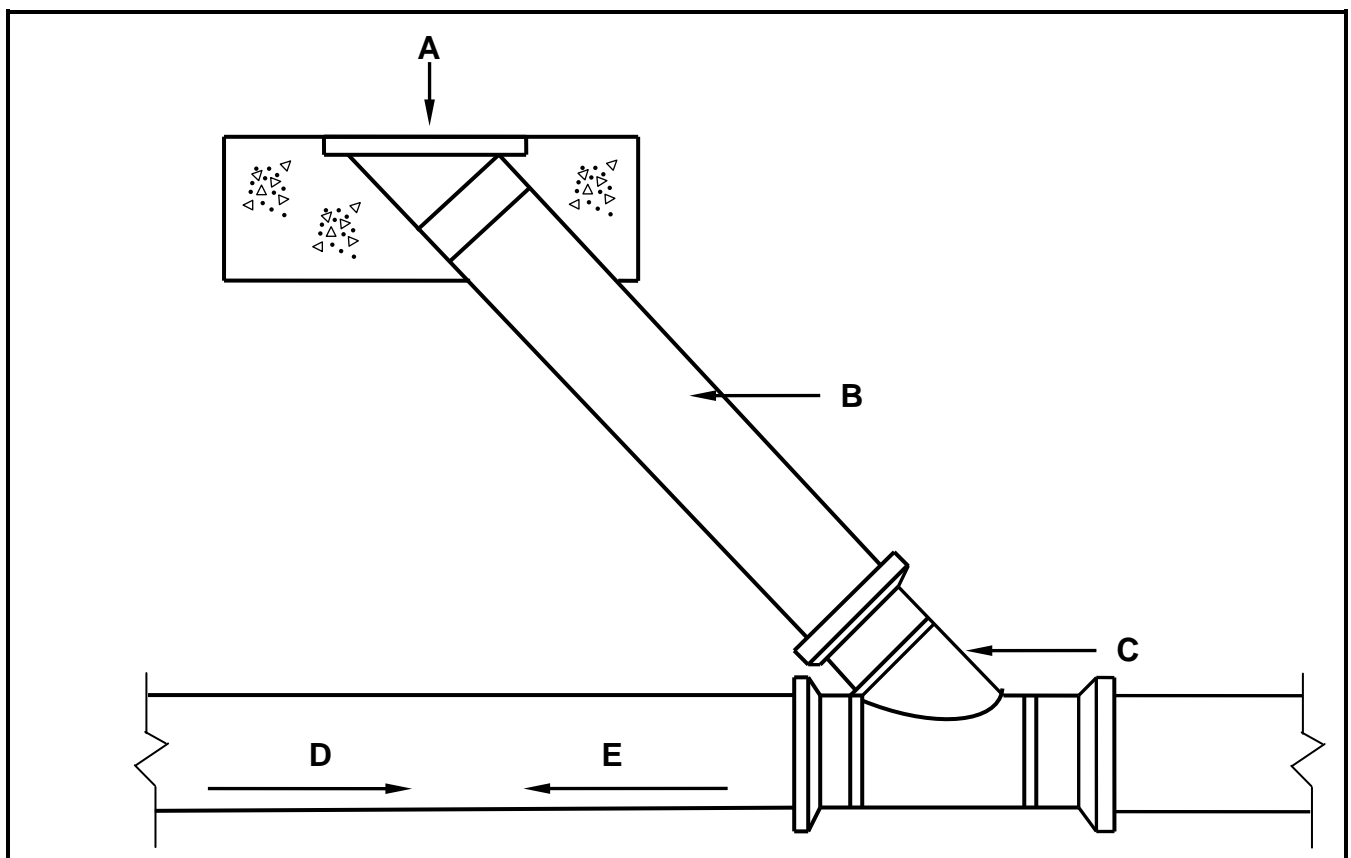

FIGURE 3.3
3.3 FIGURE 3.3 below shows part of a sewerage system. Analyse the illustration and answer the questions that follow.